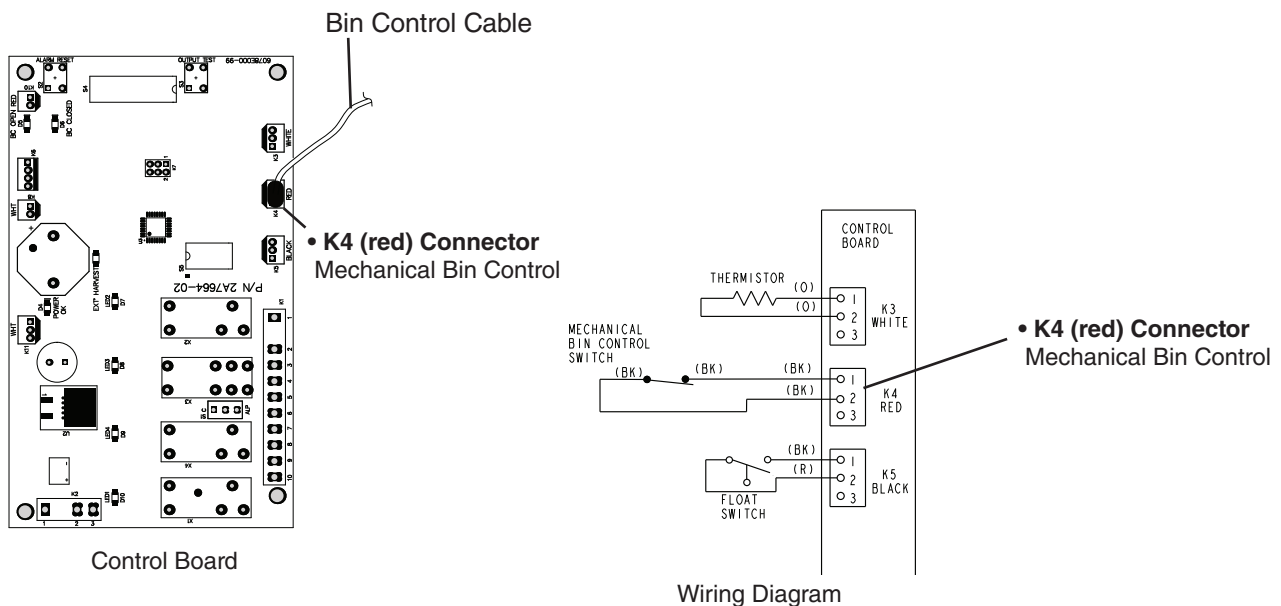

Fig. 7
- 6) Route the bin control cable through the wire saddles across the bottom of the compressor base, then up to the control box and through the control box wire grommet and into the control box. Connect the bin control cable to the K4 bin control connector (red). See Fig. 7. Note: Be sure the bin control cable is clear of the fan motor, fan blade, discharge line, crankcase heater, and compressor.